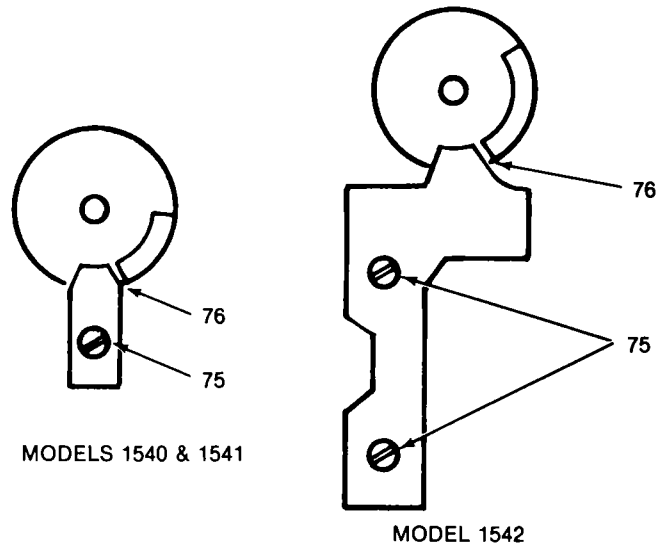

Fig. 3-17. Track No. 1 stop adjustment.
1. Loosen the track No. 1 stop screw(s) (Fig. 3-17, Item 75). Loosen the track No. 1 stop so that it moves freely under the screw(s).
5. Loosen the track No. 1 stop screw(s) (Fig. 3-17, Item 75). Loosen the track No. 1 stop so that it moves freely under the screw(s).
7. Slide a 0.006-inch feeler gauge into the gap (Fig.3-17, Item 76), gently push track No. 1 stop against the feeler gauge, and tighten the screw(s).